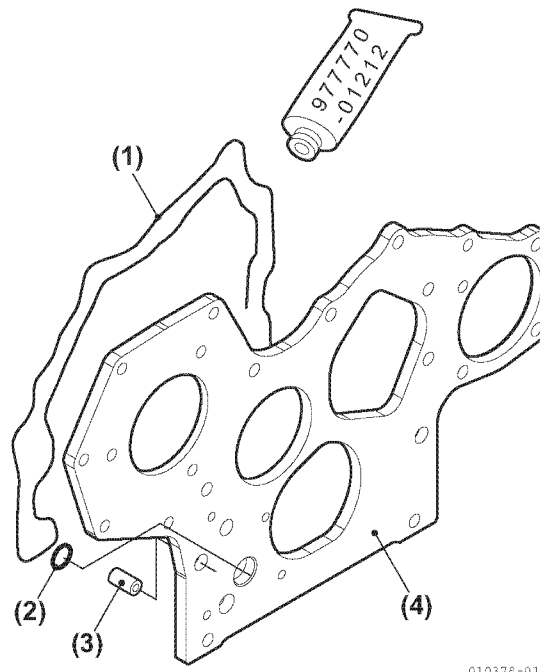

Figure 5-135
12. Apply the liquid gasket to the gear case flange. Mount the gear case and lubricating oil line O-ring to the cylinder block (Figure 5-135).
- Coat the O-ring for the cylinder block with lubricating oil and line with grease before installing (Figure 5-135).